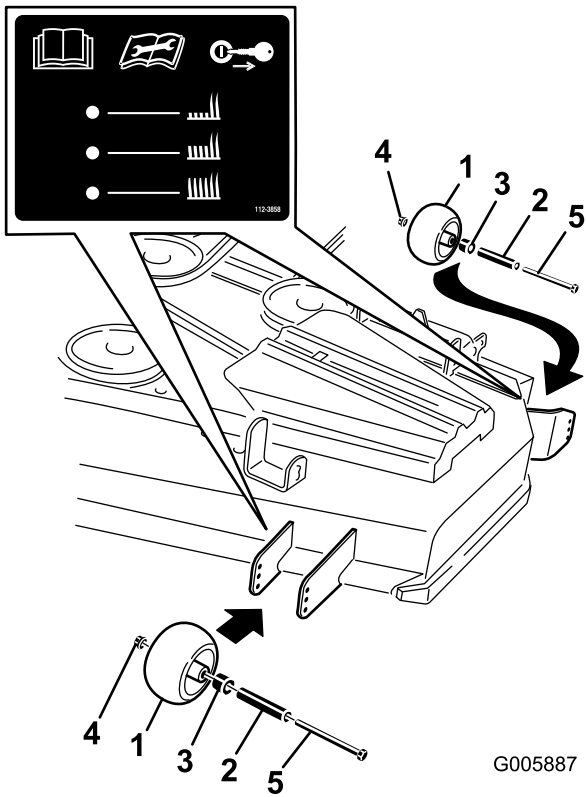
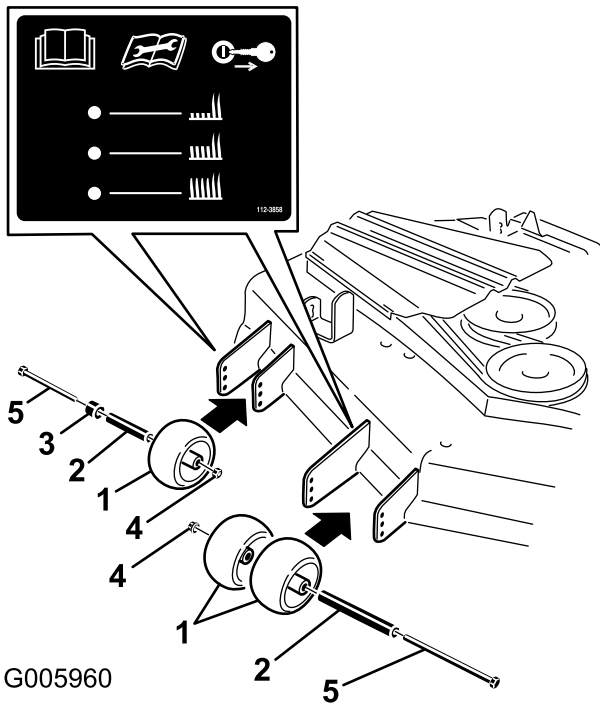

Figure 17
Figure 18
3. After adjusting the height-of-cut, adjust the rollers by removing the flange nut, bushing, spacer, and bolt (Figure 17 or Figure 18).
Note: The two middle rollers will not have a spacer (Figure 17 or Figure 18).
5. Install the flange nut bushing, spacer, and bolt. Torque to 40-45 ft-lb (54-61 N•m) (Figure 17 or Figure 18).